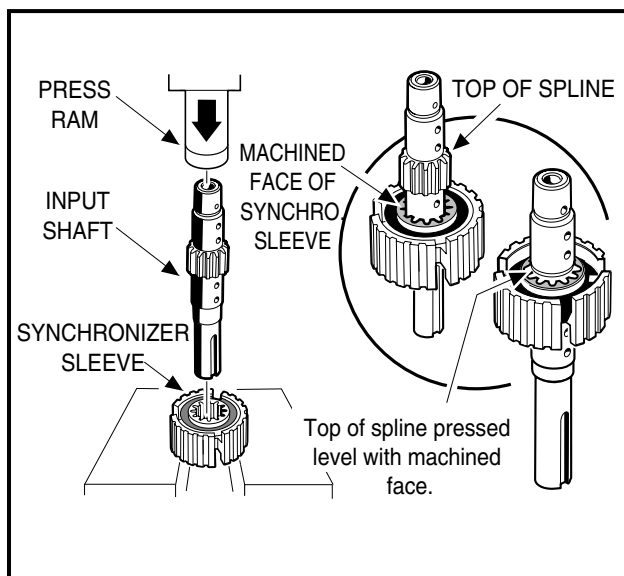

Figure 5-26 Synchronizer Gear Assembly
- 1.1. Press the synchronizer sleeve (47) onto the splines of the input shaft (51) (**Figure 5-11, Page 5-7**). No particular orientation of the sleeve is necessary, but toward the short end of the shaft, the machined circular face surrounding the ends of the internal splines in the sleeve must be flush with the machined lip of the shaft at the ends of the shaft splines (**Figure 5-26, Page 5-15**).
- 2.1. Press the synchronizer sleeve (47) onto the splines of the input shaft (70) (**Figure 5-12, Page 5-8**). No particular orientation of the sleeve is necessary, but toward the short end of the shaft, the machined circular face surrounding the ends of the internal splines in the sleeve must be flush with the machined lip of the shaft at the ends of the shaft splines (**Figure 5-26, Page 5-15**).